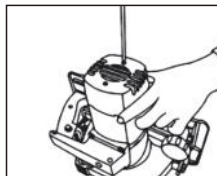

Fig 15
3. Use a screwdriver to remove the rear cover, temporarily remove the spiral spring and take out the worn carbon brushes, insert the new ones and let the spring be free so that the carbon brushes are fixed. (Fig 15 & 16)